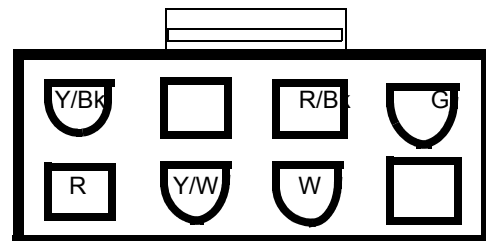

Figure 17.12
17.12. Looking at the plug head-on, it will be configured as shown in the diagram: There will be 8 female pin terminals. When probed they should yield the results described in the following sections. See Figure 17.12.